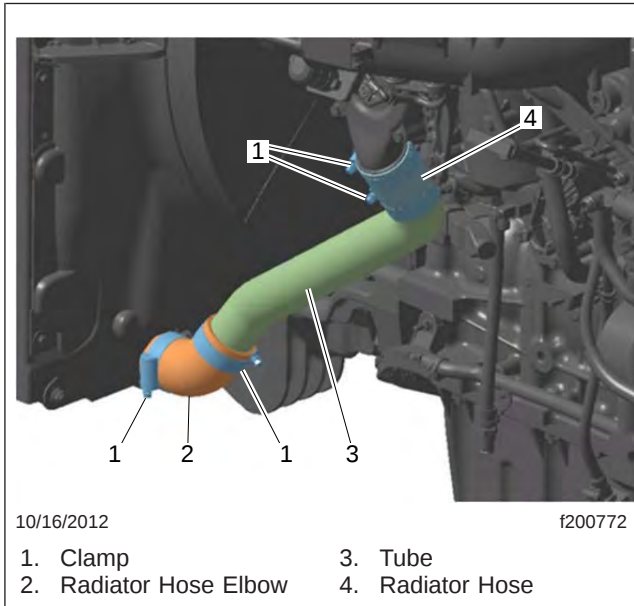

Fig. 11, Lower Radiator Hose Installation
15. Remove the lower radiator hose. See Fig. 11.
28. Install the new lower radiator hose assembly. See Fig. 11.